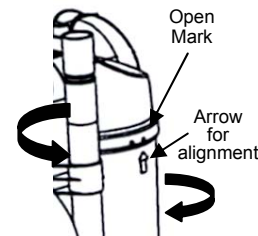

Fig. 8
1. To remove the filter assembly from the dust cup, hold the dust cup cover from the handle in one hand and with the other hand, turn the dust cup container counter clockwise. (Fig. 8)